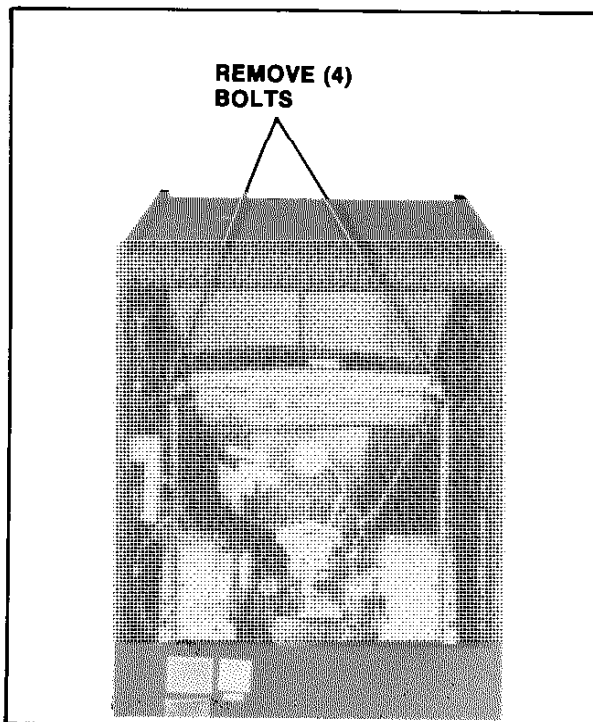

Figure 3-4 Removing the Monitor
1. UPRIGHT MODEL: See Figure 3-4.
- ☐ The monitor mounting bars slide on top of and against two metal guides mounted to the cabinet's right and left sides. The monitor is removed by sliding it out the back of the cabinet. See Figure 3-4.